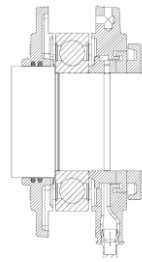
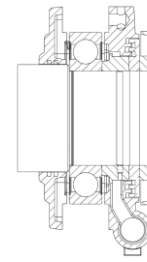

Figure 7.1: Bearing with grease fitting and outlet drain
Figure 7.2: Bearing with grease fitting and spring rod
The relubrication of rolling bearings with grease outlet drain, as shown in Figure 7.1 and Figure 7.2 must be done as follow:
2. Remove the drain plug (bearing with outlet drain, as Figure 7.1) or remove the spring rod, clean and put it back in place (bearing with spring rod, as Figure 7.2);